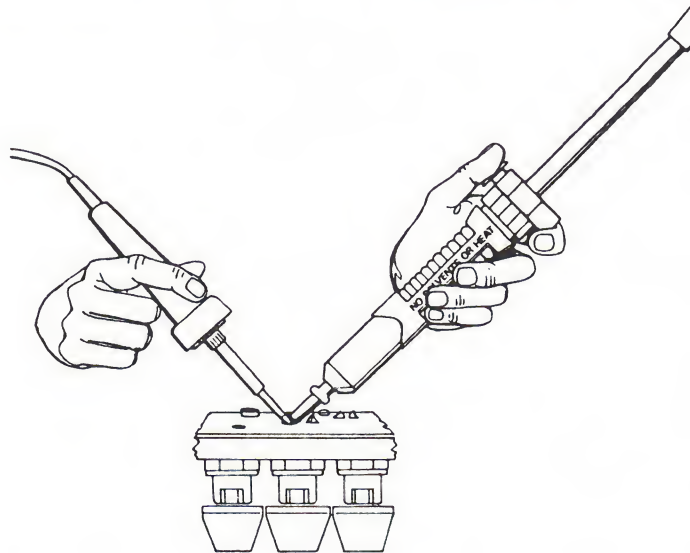

FIGURE 4
4. Hold the soldering iron and the solder sucker as shown in Figure 4. The tip of the iron should be firmly in contact with both the pin and the pad at the base of the pin.